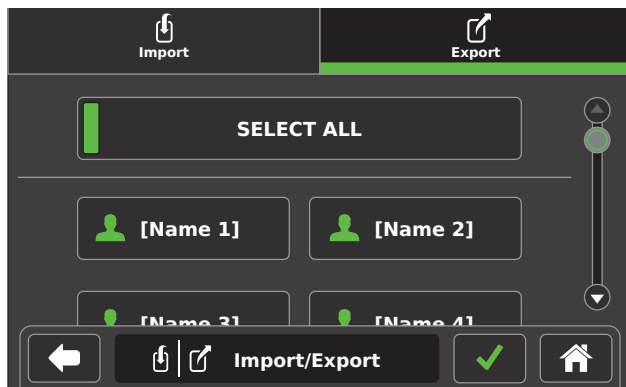

Figure 17 – Import/Export Screen
3. Touch the **SELECT ALL** button or touch the individual preset file(s) to import/export (Figure 17).